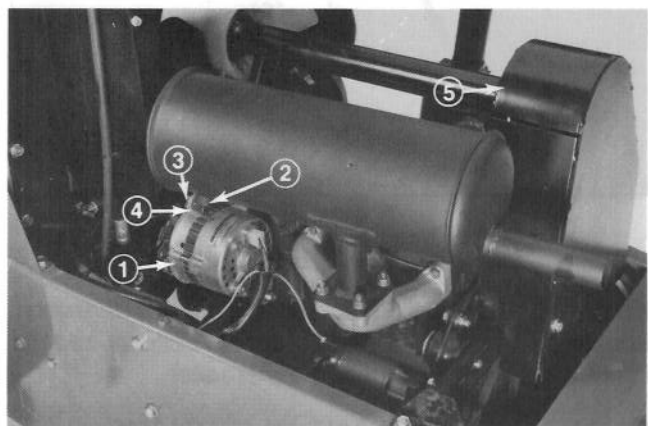

Figure 49
3. Loosen bolt securing brace to engine and bolt securing alternator to brace (Fig. 49).
4. Insert pry bar between alternator and engine and pry out on alternator (Fig. 49).
2. Remove capscrews (5) securing fan belt guard and remove guard (Fig. 49).
5. Install fan belt guard and secure with capscrews (Fig. 49). Close and latch hood.
4. Install fan belt guard and secure with capscrews (Fig. 49). Close and latch hood.